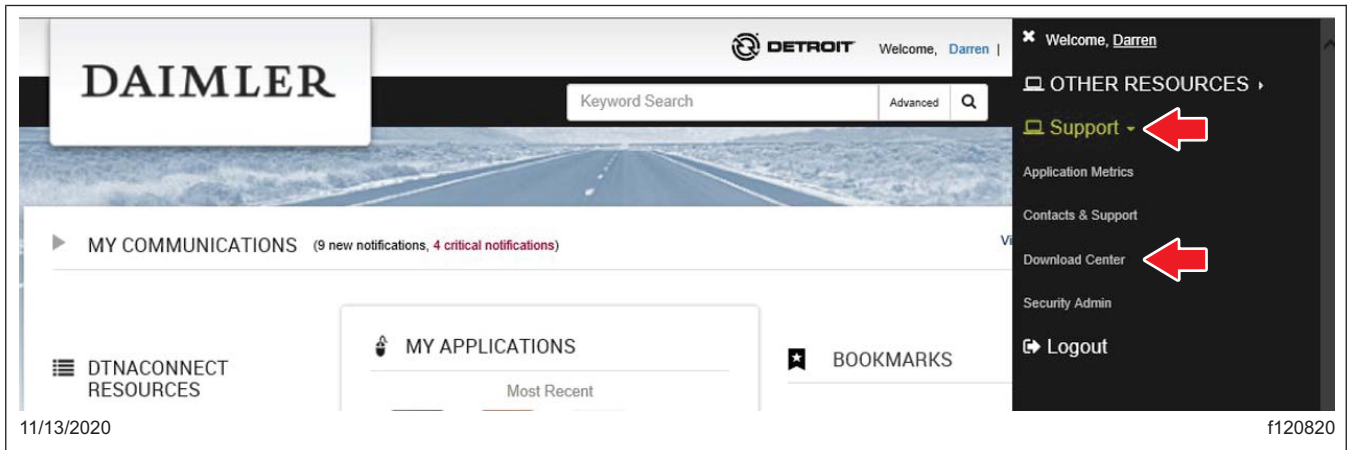

Fig. 3, Selecting Download Center
4. Select 'Support,' then select 'Download Center.' See Fig. 3.